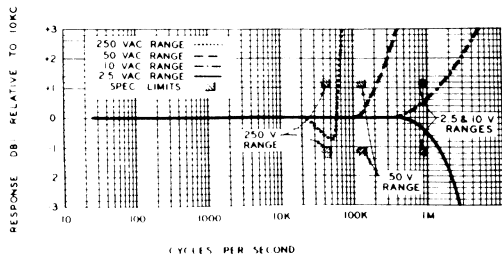

Figure 1-2. Typical Frequency Response Curve
*See typical Response Curves, Figure 1-2.